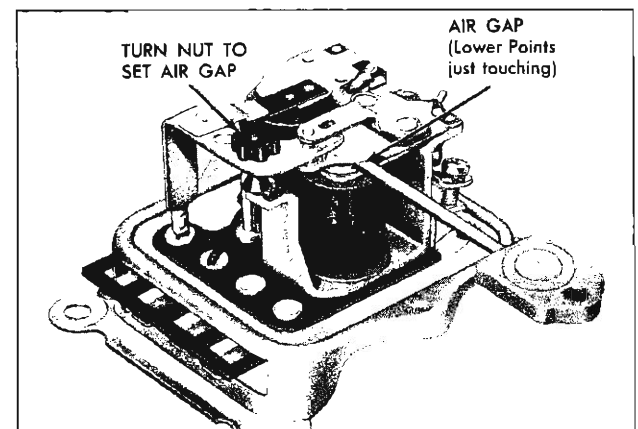

Fig. 37—Checking Voltage Regulator Air Gap
2. **Air Gap:** Measure the air gap with a feeler gauge placed between the armature and core when the lower contacts are touching as shown in Figure 37. To adjust the air gap, turn the nylon nut located on the contact support.